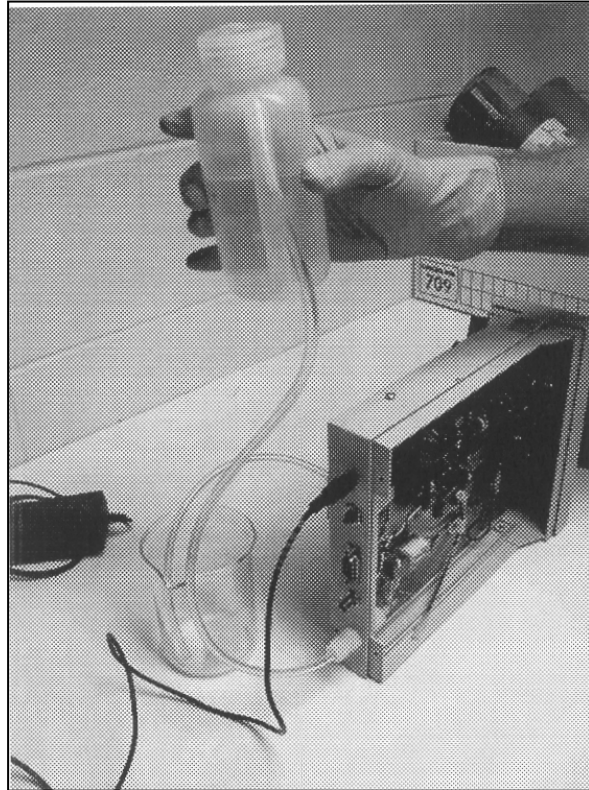

Figure 4-6. Force Methanol Through 2B Ozone Analyzer.
- Use a squirt bottle to force clean methanol (preferable ACS Reagent grade) through the instrument for a period of approximately 1 minute (see Figure 4-6). The waste should be collected using the outlet tube to prevent wetting other components of the instrument. If methanol is spilled on the instrument, turn the instrument off and blow dry with air or nitrogen. Methanol will not damage the circuitboard or other components when the instrument is unpowered. Note that